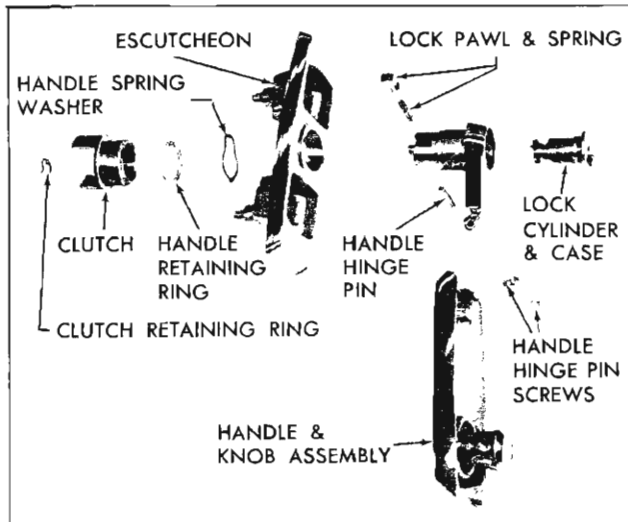

Fig. 93—Tail Gate Window Regulator Outside Handle Assembly
2. Remove clutch retaining ring and slide clutch off shaft of handle driver (fig. 93).
3. Insert key in lock cylinder and turn key to lock position. Depress locking pawl (fig. 93), turn key (lock cylinder) approximately ¼ turn counterclockwise and remove lock cylinder assembly, locking pawl and locking pawl spring from handle driver.
3. Using a snap ring removal tool, remove retaining ring securing handle assembly (fig. 93), remove washer and spring washer from shaft of handle driver and remove handle assembly from escutcheon.
4. To remove handle and knob assembly, remove handle hinge pin screws (fig. 93) and remove handle and knob assembly from handle driver.